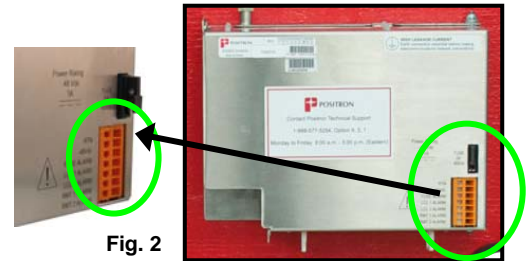

Fig. 2
1.4.3 If a -48Vdc source is already locally available, feed the -48Vdc in through the universal, fused power input terminal block and connect the pre-installed Orange and Yellow conductors to the -48Vdc .input power terminals located on the side of the TeleLite 3-slot "Swing-Out" shelf. See Figure 2.